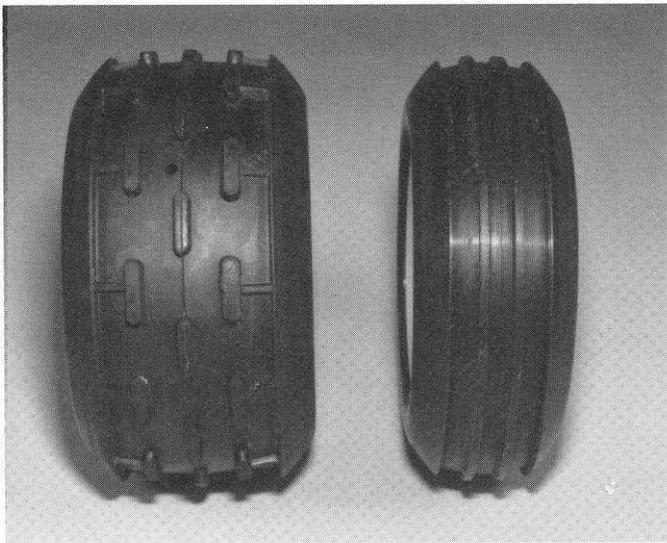

Fig. 152
□ **Figs. 152 & 153** When we designed the RC10T truck, we looked at the ROAR rules and there was no minimum dimension listed for the front wheels and tires. Because what we were designing was similar to Stadium Trucks, we wondered why nobody was using narrow front tires, as on Stadium Trucks.